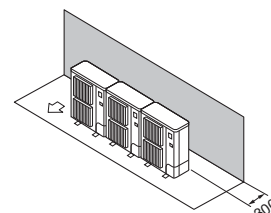

Fig. 3-11
- ① Solo ostacoli posteriori (Fig. 3-11)